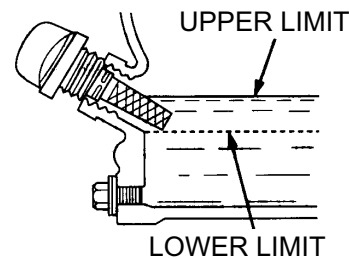

Figure 6. Engine Oil Dipstick (Oil Level)
4. If the oil level is low (Figure 6), fill to the edge of the oil filler hole with the recommended oil type (Table 5). Maximum oil capacity is 2.33 pints (1.09 liters).